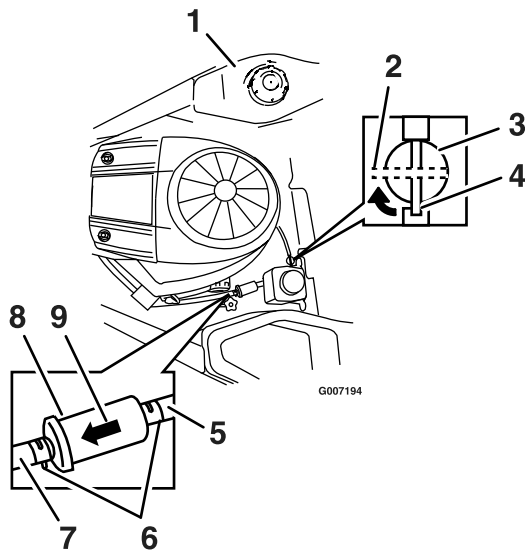

Figure 31
5. Squeeze the ends of the hose clamps together and slide them away from the filter (Figure 31).
7. Install a new filter with the flow direction arrow coming from the fuel tank and pointing to the engine. Move the hose clamps close to the filter (Figure 31) to secure it in place.